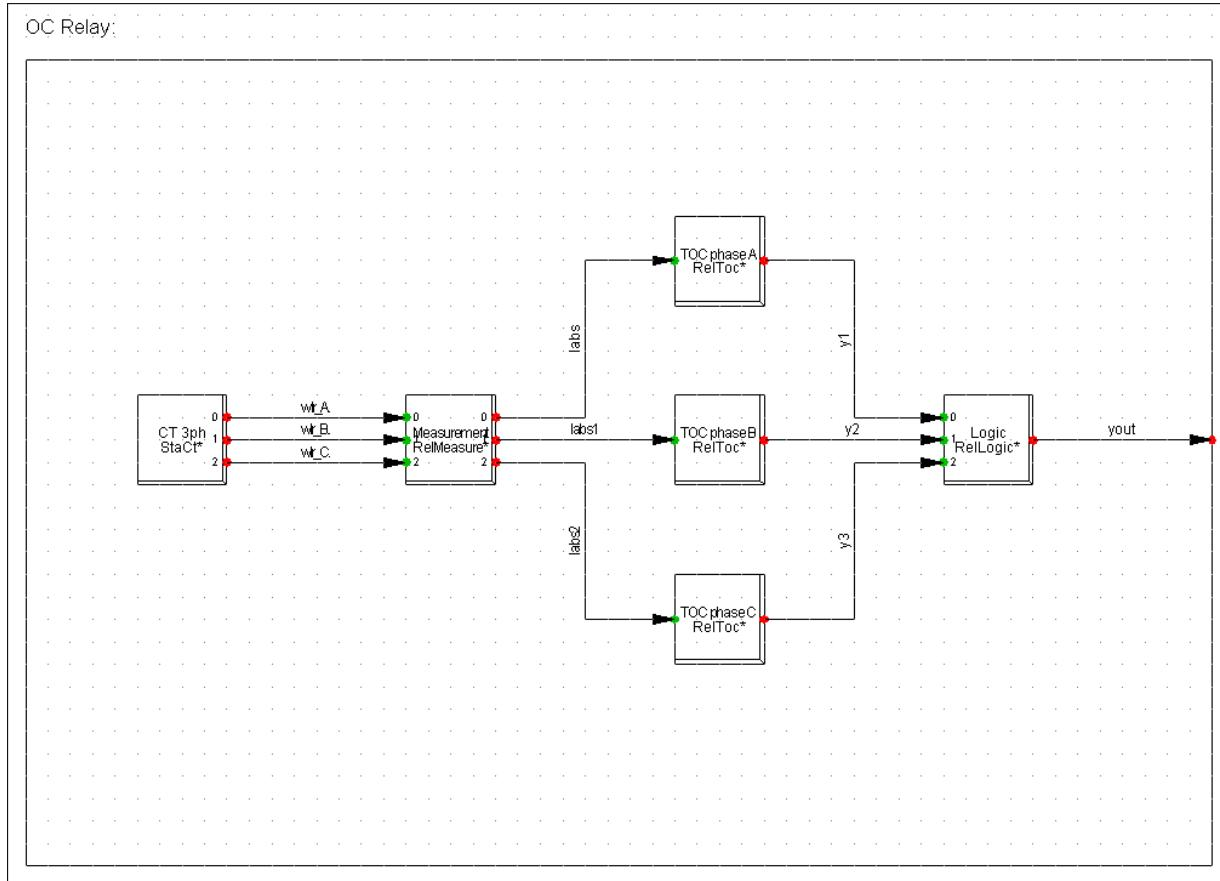

Figure 33.18.2: Signal route definition
- Connect the blocks in the frame as illustrated in Figure 33.18.2.